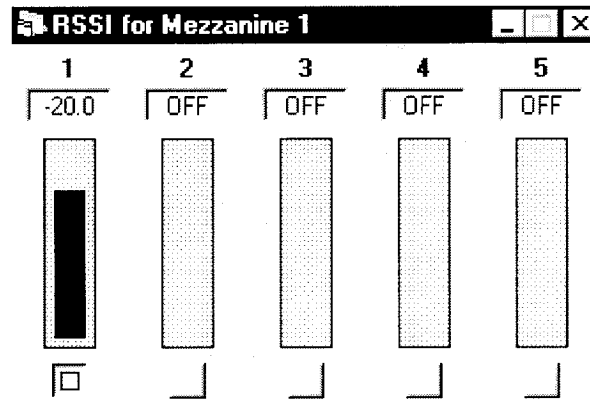

Figure 2-15 **RSSI for Mezzanine 1**
6. Click the **Open** pulldown command, then click the **RSSI for Mezzanine 1** item. The RSSI for Mezzanine 1 screen is displayed as shown in Figure 2-15. Each column corresponds to a DDC on the mezzanine.